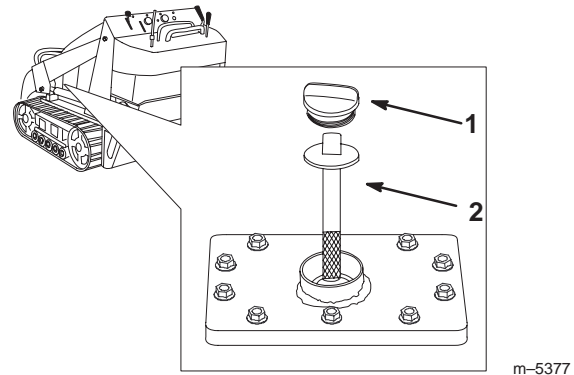

Figure 45
5. Remove the hydraulic tank cap and dipstick (Fig. 45).